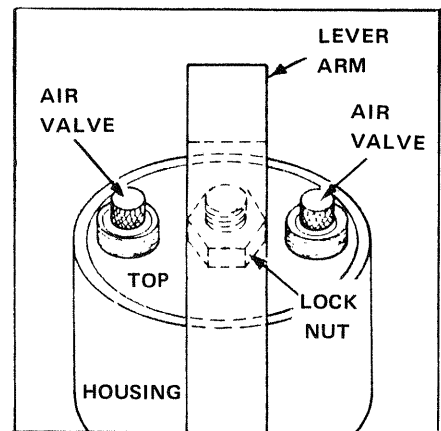

FIGURE 9-53 Dashpot Air Valves and Adjustment Parts.
P. Move the Vorsetzer away from the piano. Check the Air Valves on the top of the Dashpot (see FIGURE 9-53). If they are tight, see the CAUTION below, and proceed to Point 'Q'. If they are loose, turn each one 1/4 turn CLOCKWISE to increase the internal resistance of the Dashpot (DECREASE THE THRUST OF THE SOLENOID). Note CAUTION and proceed to Point Q.